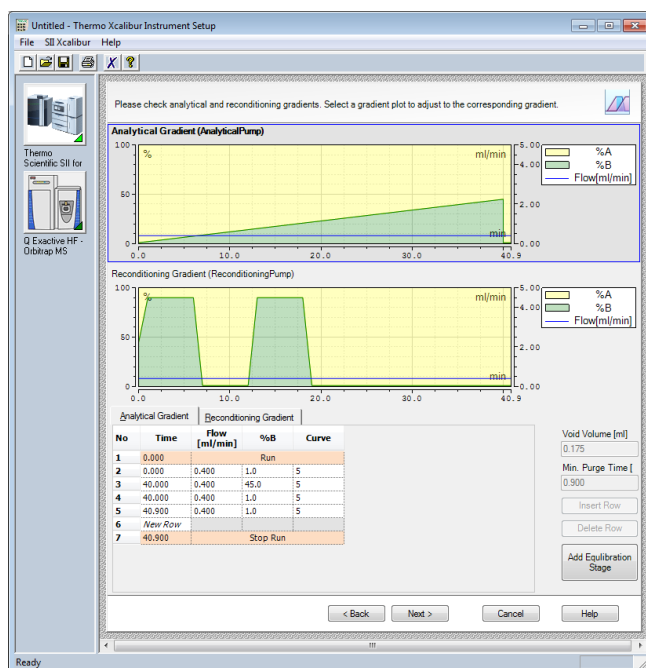

Figure 14: Tandem LC method
- d. Finish the Instrument Method Wizard. The Instrument Method Editor allows final edits of the Tandem LC method and has an integrated Tandem Integrity check to detect possible errors after method edits (Figure 14). For Tandem LC-MS setups, define the MS instrument method and save the instrument method accordingly.